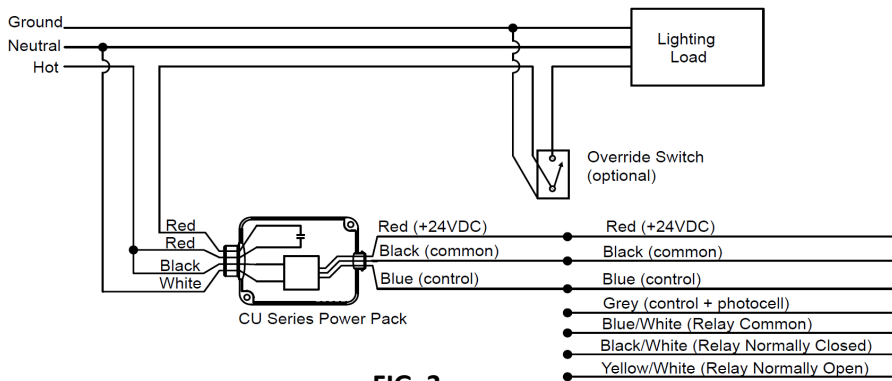

FIG. 3
INSTALLATION OF SENSORS Fig. 3
- 3. Run 3 conductor low voltage cable (18 to 22 AWG type CL2, CL2P, CL2PR, or CMR as appropriate) from control unit to sensor location(s) per wiring diagram fig 3. Maximum cable length between power unit and farthest sensor is 250 feet (76 meters).